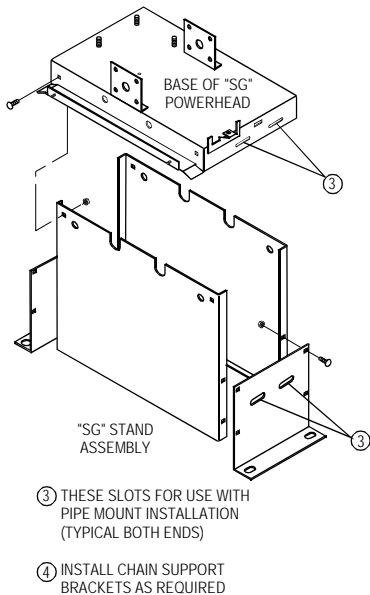

Figure 4
- (1.) Assemble stand to power head base per figure 4 using carriage bolts.